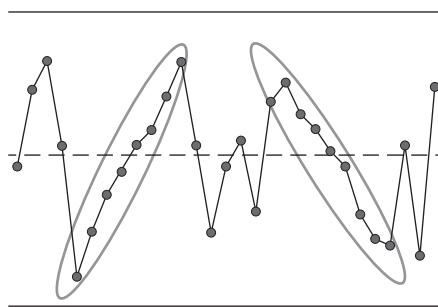

Figure 9.11 Control chart showing positive and negative trends.
- *Trend.* Seven or more points continuously increasing or decreasing (Figure 9.11). Often seen after some change was made in the process. If you miss a negative